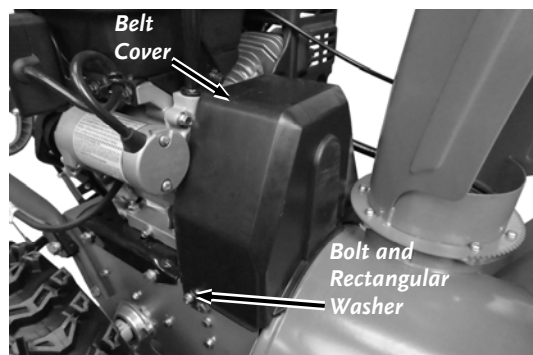

Figure 54
1. Remove the two Bolts and rectangular Washers from the Belt Cover using a 10mm Wrench and remove the Belt Cover (**Figure 54**).